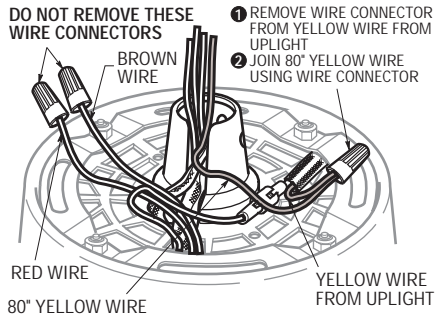

Figure 7
**13. For Ceiling Fan Models F2100, F2200, CF2300, CF2500 and CF3900 Only.** Locate and remove the connector from the yellow wire from the upright (Figure 7). Separate, untwist and unkink the 80" yellow wire lead (supplied with the fan) and cut off the connector from the end of the wire. Strip 1/2-inch of insulation from the end of this wire. Then join the 80" yellow wire to the yellow wire from the upright using a wire connector (supplied).